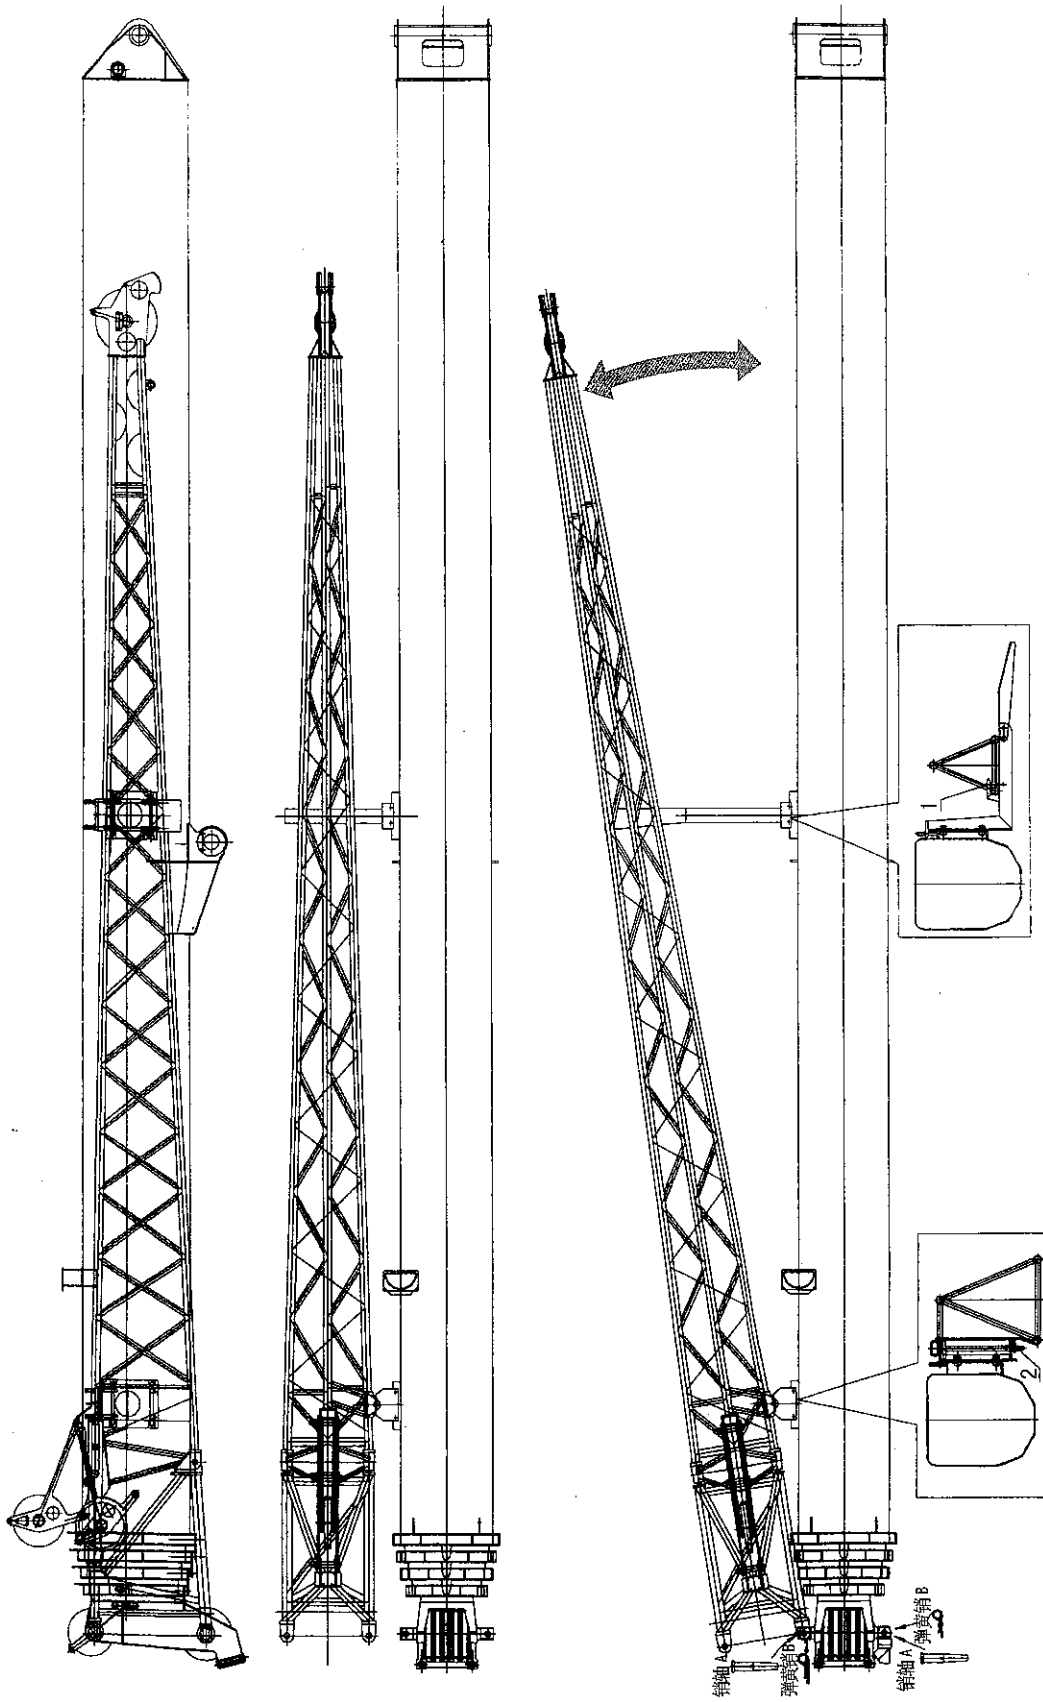

Fig. 5-1
- (1) Operate the jib with outriggers half or fully extended.
- (2) Erecting procedure (refer to Fig. 5-1):
(3) Change of offset from 0° to 15°